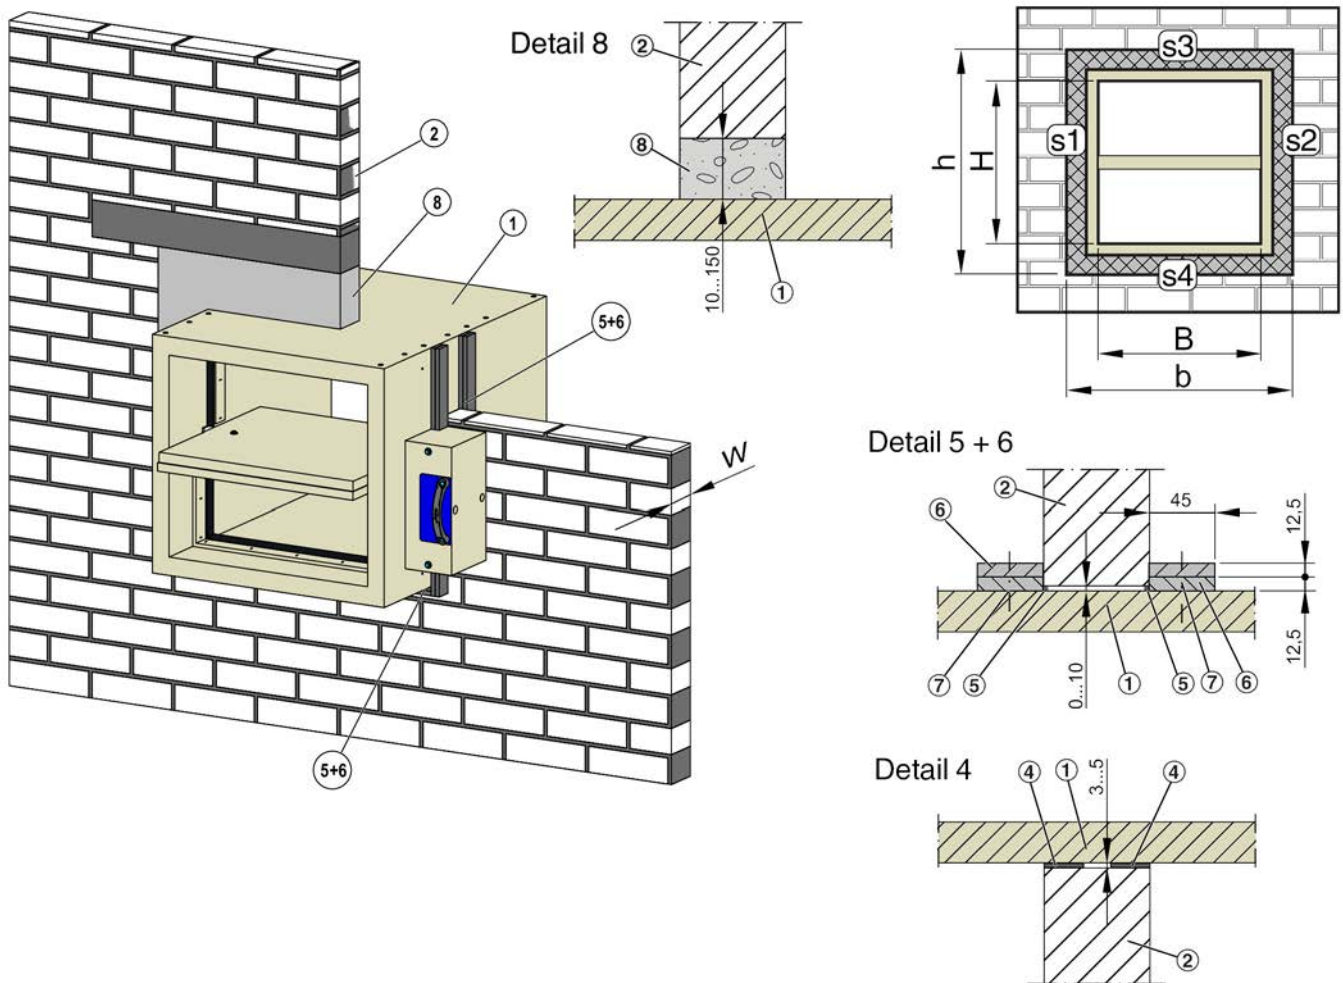

Fig. 13: Wet-dry mortarless installation in solid wall, installation variant 2a, classification index: v_{ew}
- ▶ Create an installation opening according to Fig. 13 .